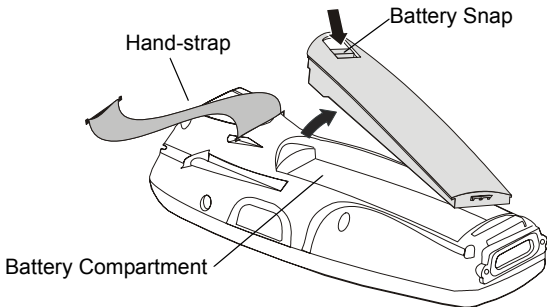

Figure 4. Battery Installation and Removal
2. Remove the HC700-G hand-strap (see Figure 4).
3. Press the battery snap on the battery (see Figure 4) and pull away the battery from the HC700-G.